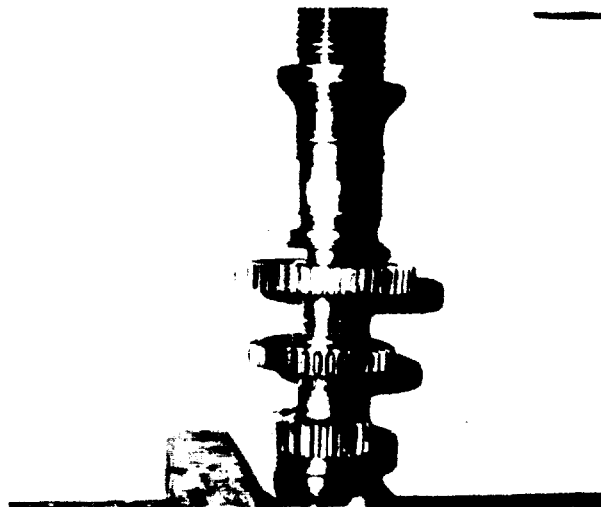

FIGURE 7-66.
(3). Press the drive gear and bearing on the front end of the shaft (see figure 7-66).